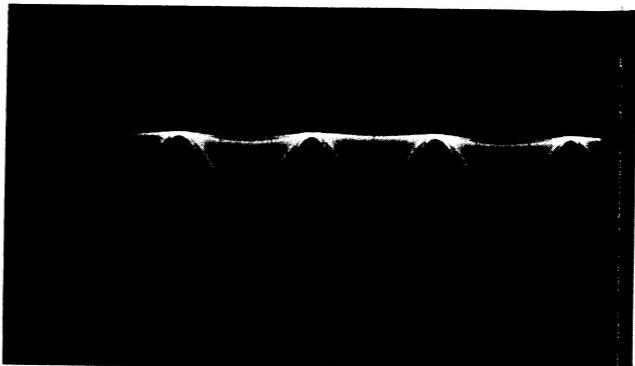

Figure 36 Symmetrical sinewave
- Fine-tune the tuner for symmetrical sinewave on the oscilloscope (see figure 36).
- Adjust CF101 (Front End, figure 37) for minimum distortion (on the distortion meter) and at the same time maximum d.c.-level and symmetrical sinewave on the oscilloscope (see figure 36).